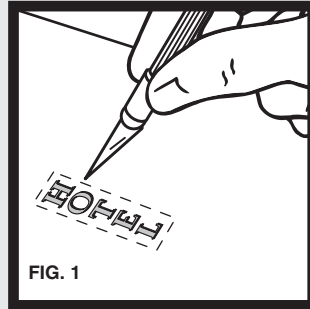

FIG. 1
- Using a hobby knife, carefully cut out plastic-backed Dry Transfer Decal as close to the edges of the printed decal as possible (**Fig. 1**).